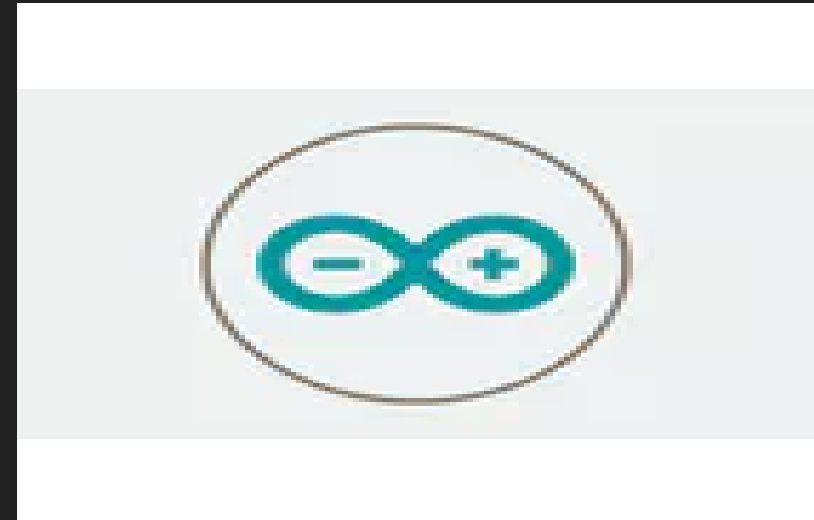

FIG.4 ARDUINO IOT REMOTE APP
- 2.Web images:- fig.4 Electronic Spices L298 Motor Driver Circuit Board